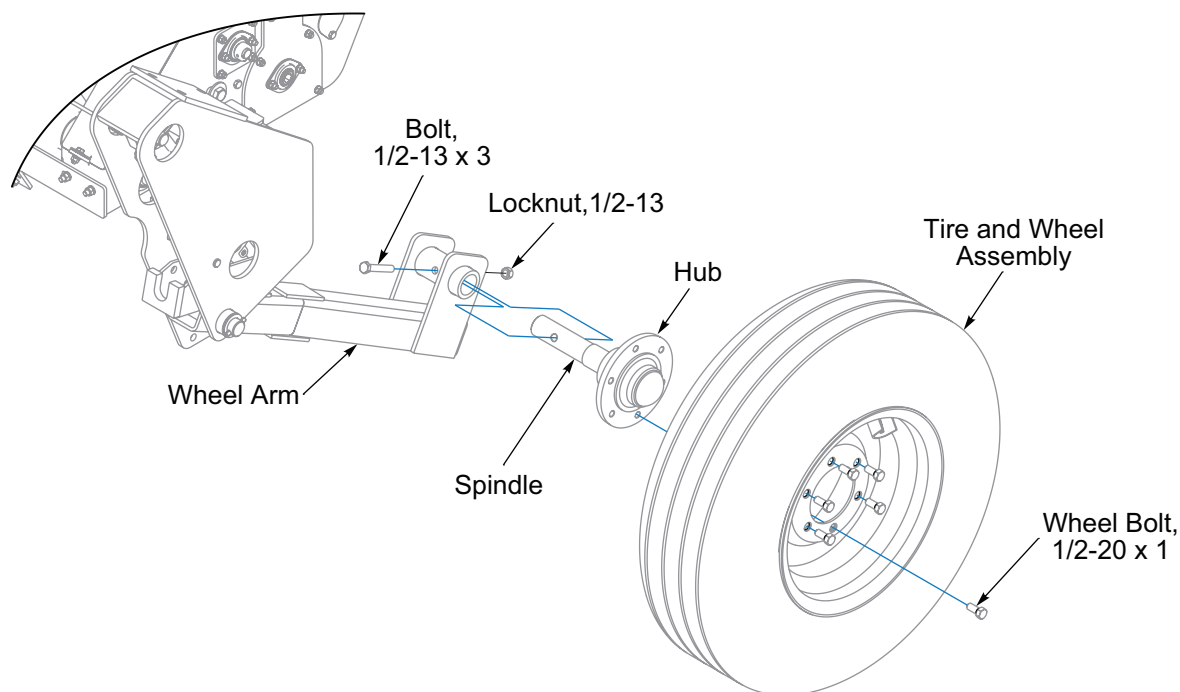

Figure 2-9: Tire and Wheel Installation
6. Apply anti-seize to Spindles and insert a Hub and Spindle Assembly into each Wheel Arm. Secure with 1/2-13 x 3 Bolts and Locknuts. **See Figure 2-9.**
5. Apply anti-seize to Spindles and insert a Hub and Spindle Assembly into each Wheel Arm. Secure with 1/2-13 x 3 Bolts and Locknuts. **See Figure 2-9.**